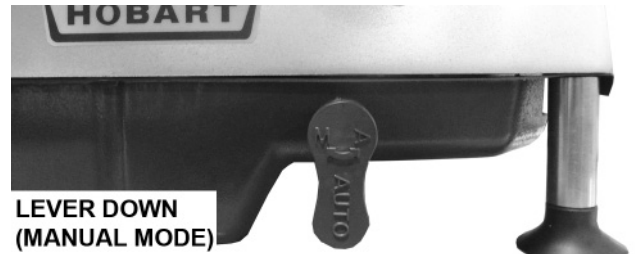

Fig. 4
- Ensure Lever (Fig. 4) is in the down position for manual mode.
NOTE: The OFF button can be pressed to stop the slicer. The Product Tray will stop moving immediately. Lower the Lever (Fig. 4) and pull the Product Tray toward the operator to the home position.